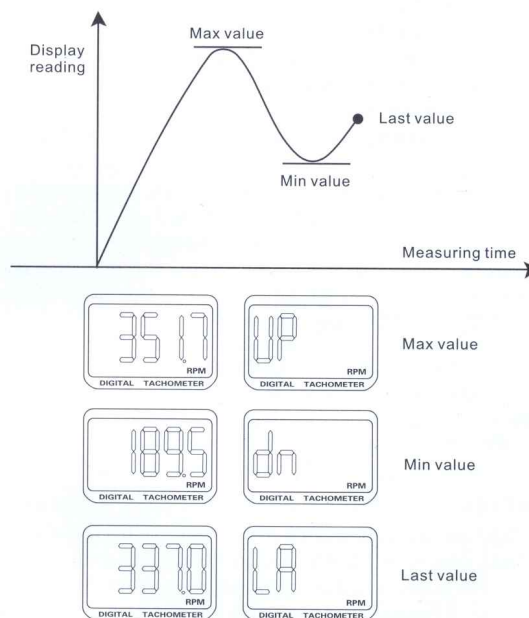

Fig.1
- (2) Memory call button operation A readout (the max value, min value, last value) obtained immediately before turning off the MEASURING BUTTON is automatically memorized. For example, please refer following fig. 1. That Memorized value can be displayed on the indicator by turn once depressing the memory button. The Symbol "UP" represents the Max. Value and "DN" the Min. Value, "LA" the Last Value.